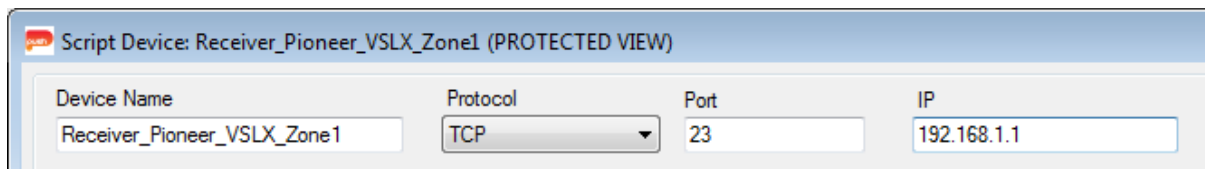

Figure 8 – Configuring the Controller's TCP Port
- For PC2/PC1: 'TCP' as the Protocol *Refer to Figure 8*